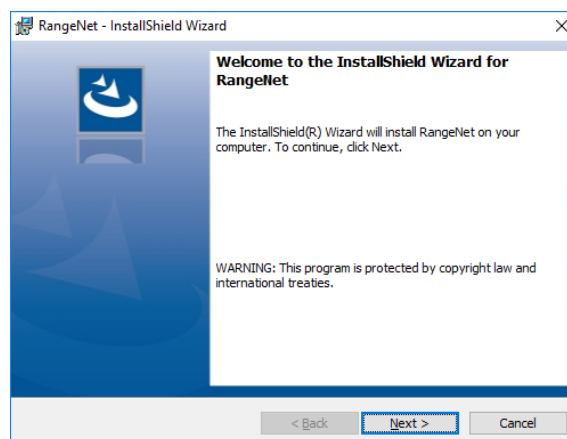

Fig. 1: Initial RangeNet GUI installation display
3. Starting with the screen shown in **Figure 1**, a series of routine installation displays will appear. Each will ask the user if they wish to continue. During this process the installer will verify that the needed version of Windows .NET framework is installed on your computer. In most cases the latest version is present, but if it isn't present, then with the user's permission the installer will load .NET. If the user doesn't want to load .NET, then the installation will be terminated and the RangeNet GUI will not install.